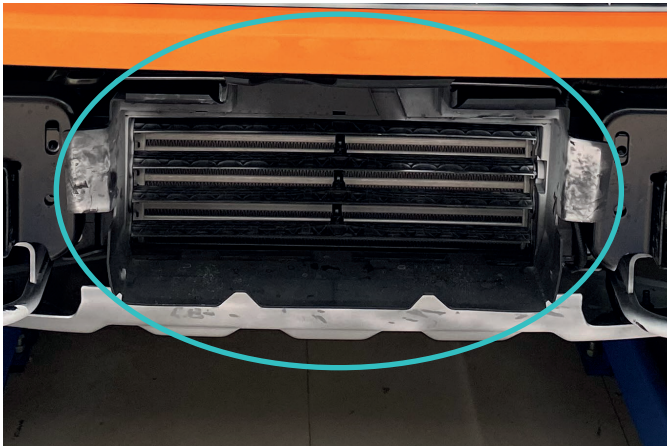

Fig.19
19. Remove the factory plastic deflector (fig.19).